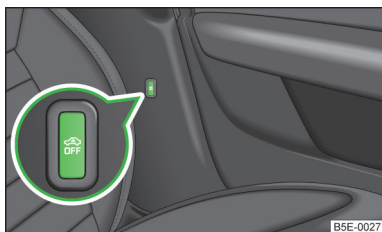

Fig. 18
- Press the symbol button  » Fig. 18 on the B-column on the driver's side. The symbol lighting in the button changes  from red to orange.